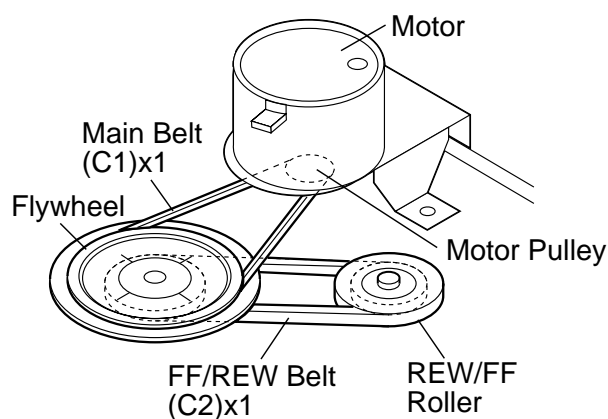

Figure 5-1
How to remove the belts (See Fig. 5-1.)
1. Remove the main belt. (See Fig. 5-1.)
1. Remove the belt. (See Fig. 5-1.)